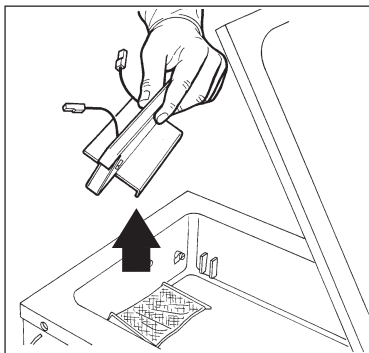

Fig. 2
- 3) Remove the sealing bar together with the connection wires (Fig. 2).